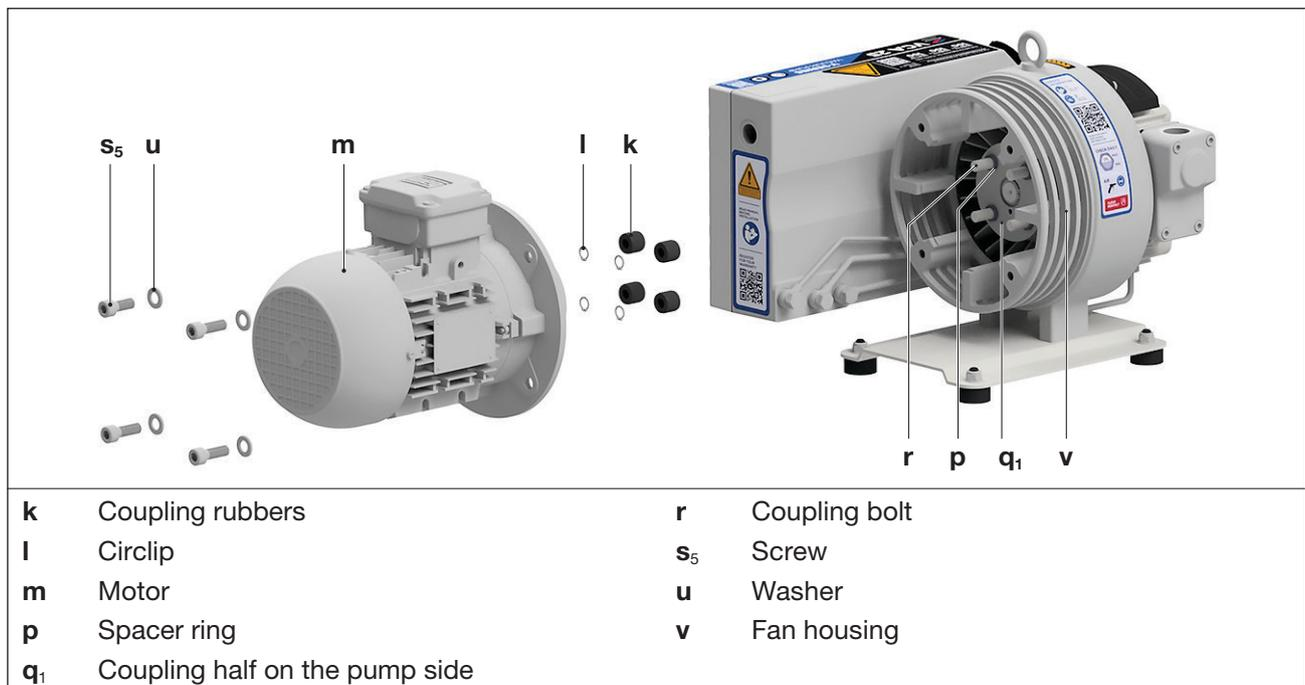

Fig. 9 Coupling
The coupling rubbers (Fig. 9/k) are subject to wear and must be checked regularly (at least once a year). Worn coupling rubbers are noticeable by a hammering noise when the pump is started.
- b) Tighten the eyebolt on the motor (Fig. 9/m) firmly and attach the lifting device to the eyebolt on the motor. If there are no eyebolts, suspend the motor using round slings.
- c) Undo the screws (Fig. 9/s₅) on the motor flange (Fig. 9/n).
- d) Pull the motor (Fig. 9/m) with the coupling half on the motor side axially off the fan housing (Fig. 9/v).
- e) Check the coupling rubbers (Fig. 9/k) for damage and wear and replace if necessary. To do this, remove the circlips (Fig. 9/l) and the worn coupling rubbers (Fig. 9/k) from the coupling bolts (Fig. 9/r) and slide new coupling rubbers with the circlips onto the coupling bolts. Leave the spacer rings (Fig. 9/p) on the coupling bolts.
- f) Push the motor with the coupling half on the motor side axially back on and fasten it to the fan housing (Fig. 9/v) with the screws (Fig. 9/s₅). Tightening torque: 50 Nm